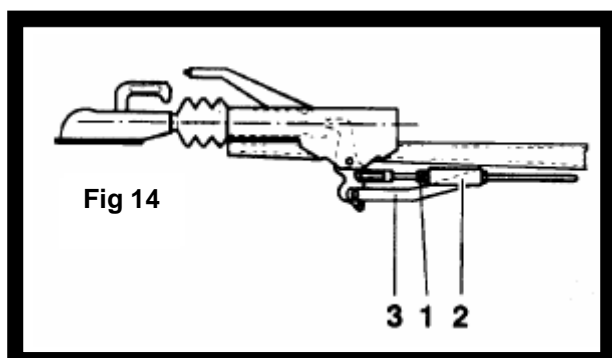

Fig 14
- On the spring cylinder version (2), adjust the locking nuts M10 (1) to the spring cylinder until there is approximately 1mm free play between the tension bar (3) and the self-locking hexagon nuts M10 (Fig 14). N.B on some chassis the locking nuts (1) are replaced with a single Nylock (self-locking) nut.